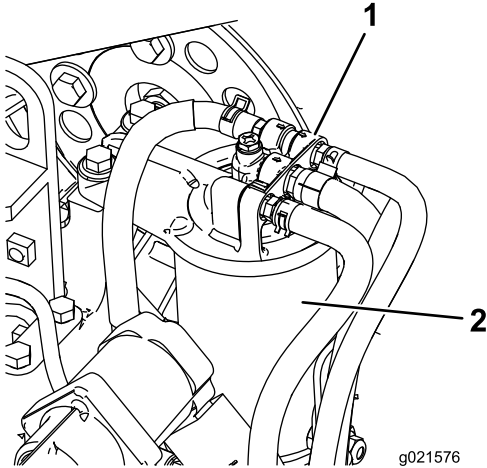

Figure 57
1. Clean the area around the fuel-filter head (Figure 57).
2. Remove the filter and clean the filter-head mounting surface (Figure 57).